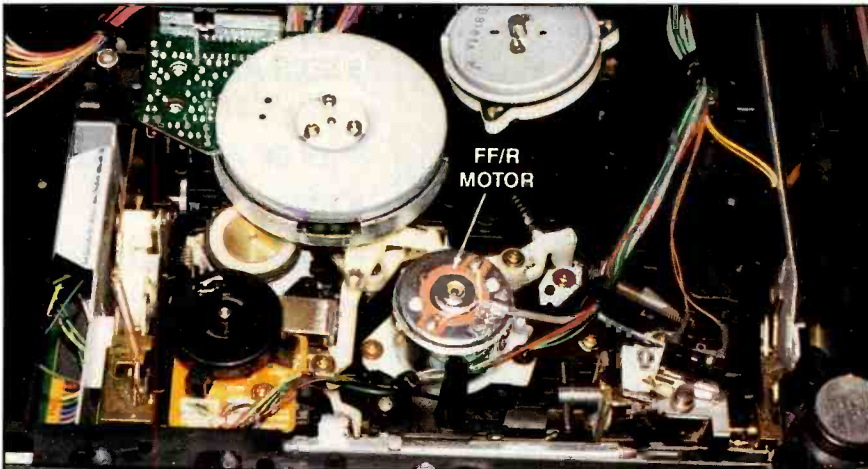

Figure 5. Underside of the tape-transport mechanism.
5. Examine the underside of the tape-transport mechanism and locate the FF/R motor and wind assembly. (See Figure 5.)